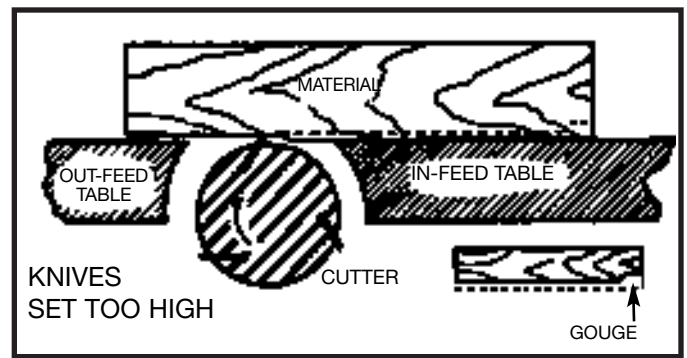

Fig. 33
8. If the knives are set too high, the work will be gouged at the end of the cut, as shown in Fig. 33.